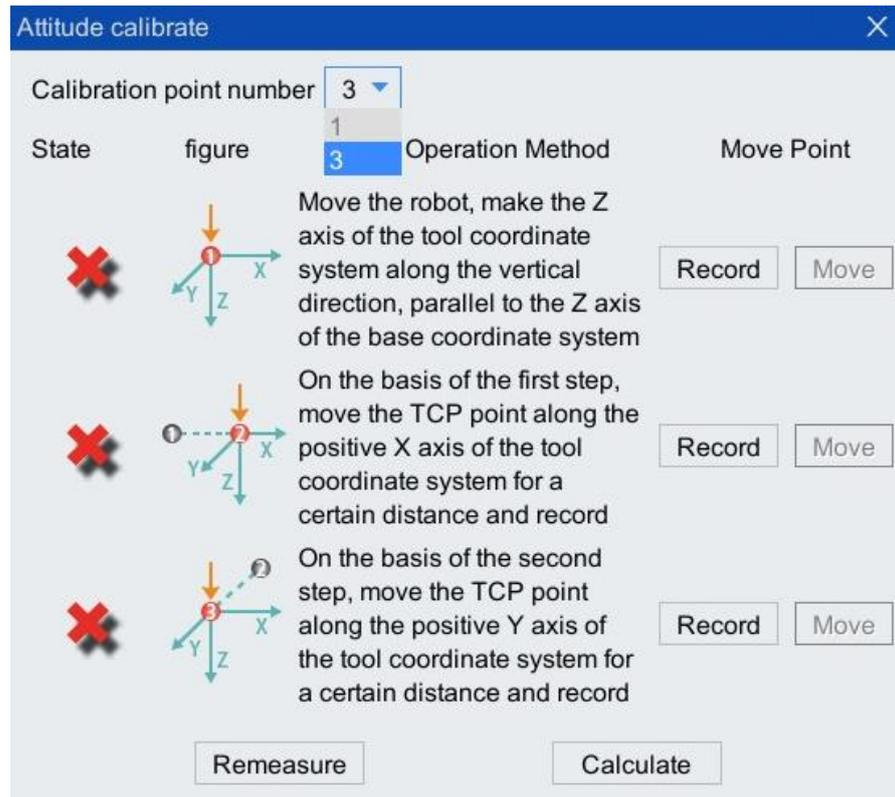

Figure 5-70 Calibration point selection
Step2. Select the number of points to be calibrated from the [Calibration Points] list, here 3 points are taken as an example. Refer to Figure 5-70.